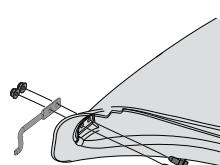

Figure 18
1. From the inside of the boot, put the two hex head screws (738-1225), from hardware pack 689-02199, through the holes at the bottom front of the boot. See Figure 18.
2. Put the mounting rod (747-06309) in place over the hex head screws. Make sure the tip of the rod is facing out from the boot. See Figure 18.
3. Begin threading the two flange lock nuts (712-04064) onto the hex head screws. See Figure 18.